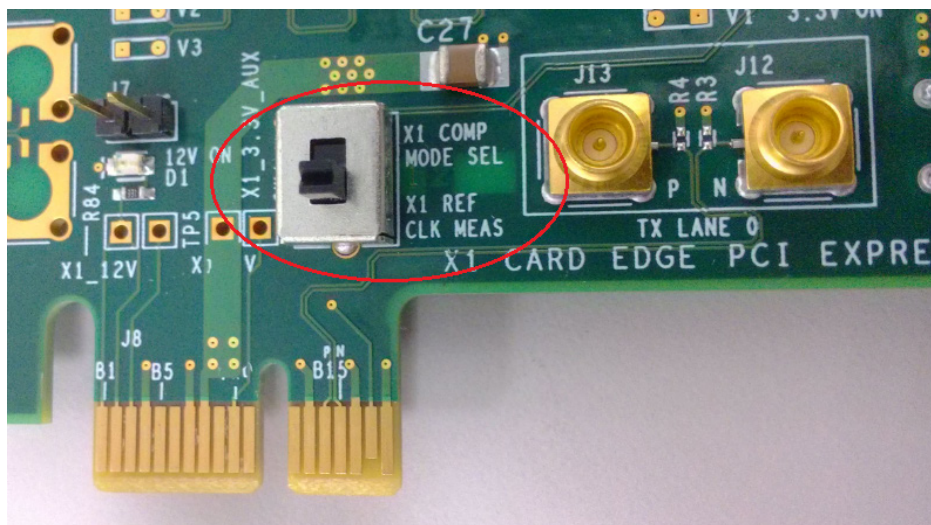

Figure 7. SW4 switch setting
- Set the slide switch SW4 to “x1 REF CLK MEAS”, as shown in Figure 7.